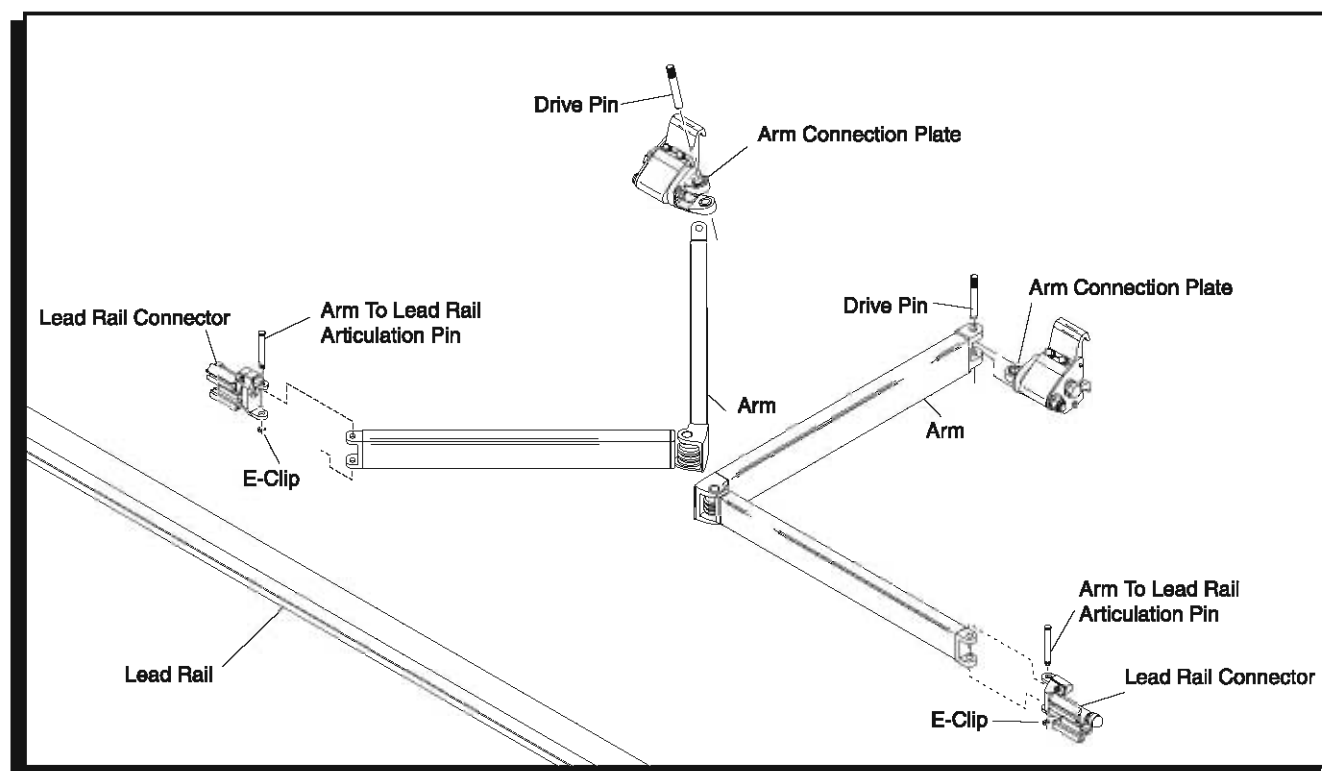

FIGURE 16
- 10) Attach the front of the arm to its connection point at the lead rail by replacing the pivot pin from the top, and securing it with the retaining ring of exploded view). Then slide into the lead rail connection and replace the nut and washer. Tighten both lock nuts, one turn from being tight, at the upper end of the arm. Adjust the pitch angle of the arm to match the other arms by rotating the head of the pitch adjustment screw. Rotate this screw in a clockwise direction (looking from the bottom up) to lower the arm. Likewise, rotating this screw in a counter clockwise direction will raise the arm. Tighten both lock nuts. See also; adjusting the Pitch Angle, in the 'Adjustment' section of this manual (Figure 16).